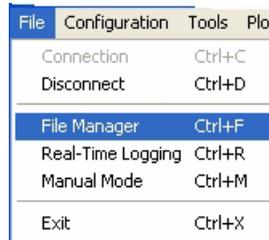

Figure 2-8. File->Manual Mode
3. Click *File->Manual Mode* (Figure 2-8).